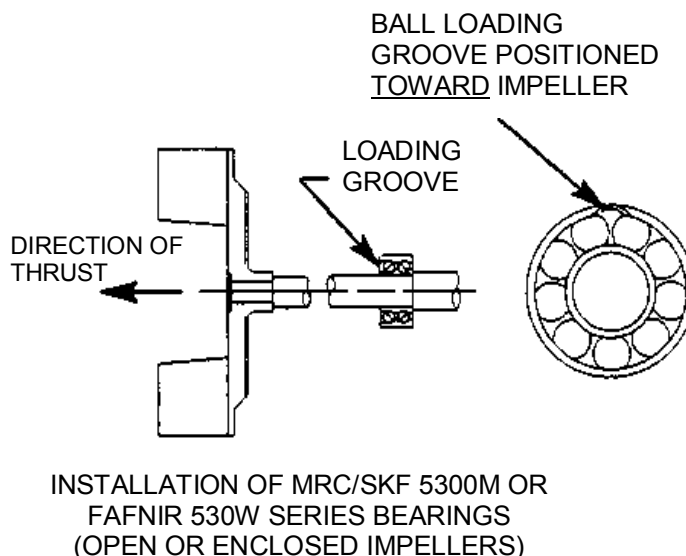

Figure 4. Inboard Bearing Positioning
Position the inboard bearing (5) on the shaft as indicated by the following illustration (Figure 4).